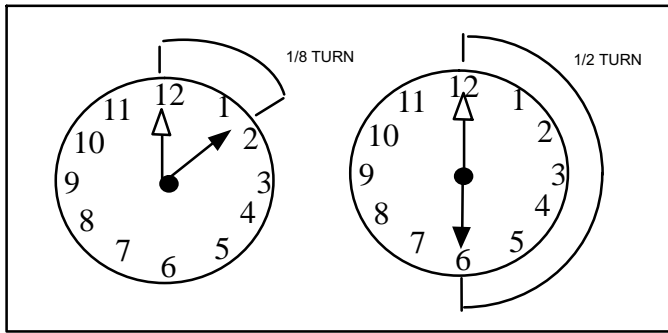

Figure 6. Tightening Distance
2. Attach the stubbed end of the kit valve to the liquid line orifice housing. Finger tighten and use an appropriately sized wrench to turn an additional 1/2 turn clockwise as illustrated in Figure 6, or 20 ft-lb.
4. Attach the liquid line assembly using the provided brass nut to the expansion valve. Finger tighten and use an appropriately sized wrench to turn an additional 1/2 turn clockwise as illustrated in Figure 6, or 20 ft-lb.
7. Connect the equalizer line from the expansion valve to the equalizer suction port on the suction line. Finger tighten the flare nut plus 1/8 turn (7 ft-lbs) as illustrated in Figure 6.
3. Replace expansion valve cap and finger tighten plus 1/8 turn as illustrated in Figure 6 or 7 ft-lbs.